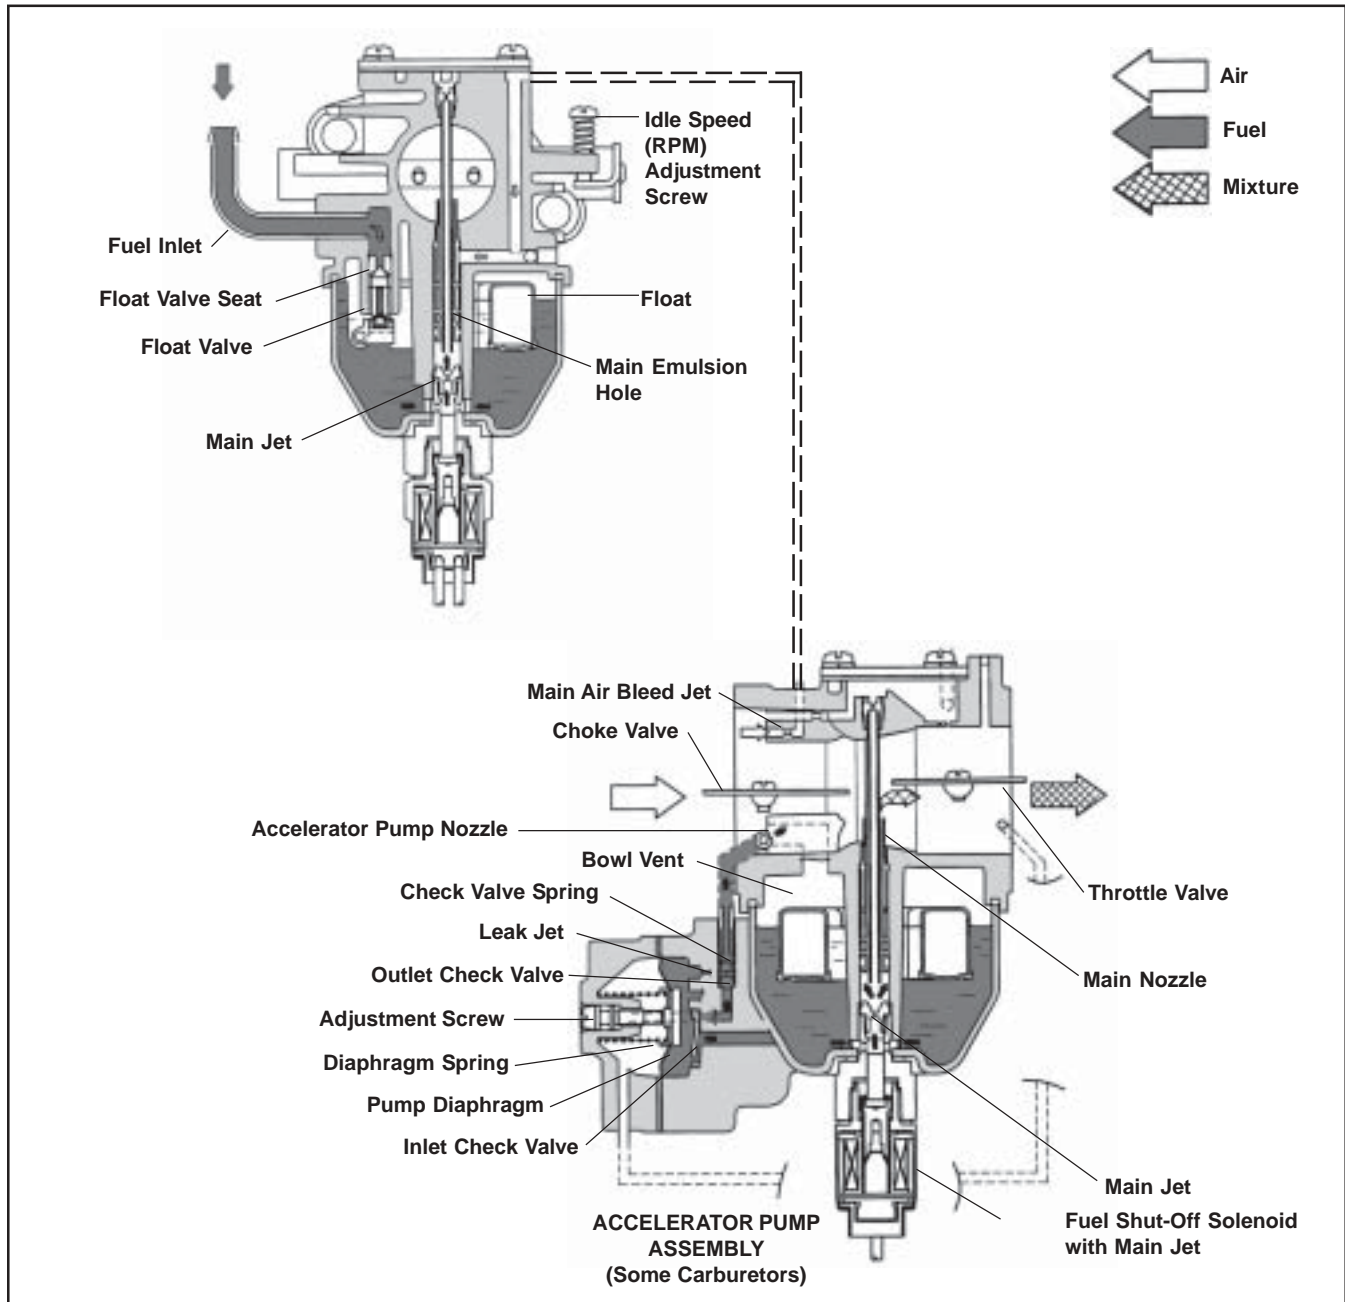

Figure 5-4. Main Circuit.
**Main Circuit:** (See Figure 5-4) At high speeds/loads the engine operates on the main circuit. As a metered amount of air is drawn through the main air bleed jet, fuel is drawn through the main jet. The air and fuel are mixed in the main nozzle and then enter the main body of airflow, where further mixing of the fuel and air takes place. This mixture is then delivered to the combustion chamber. The carburetor has a fixed main circuit; no adjustment is possible.